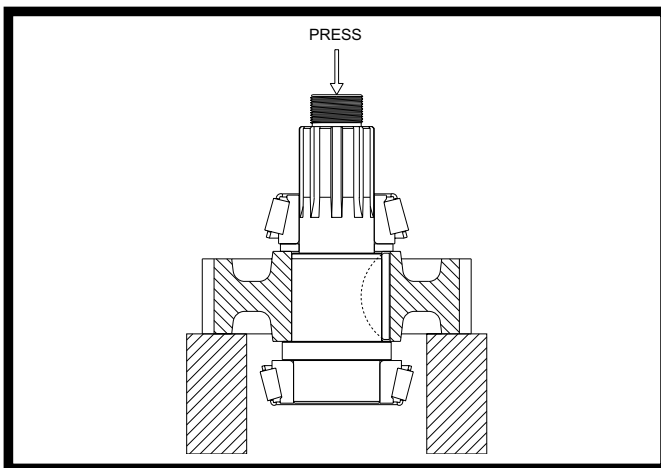

Fig 15
3. Place the shaft assembly in a press so that the rear of the gear is supported and the press arbor bears against the threaded end of the shaft. See Figure 15. Remove the front bearing cone assembly, the spacer washer, and the gear.